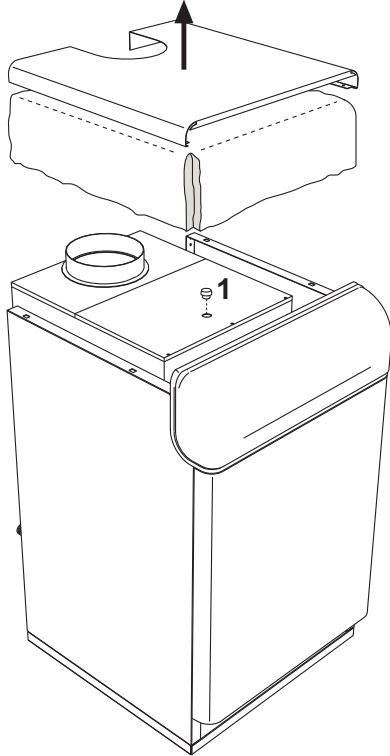

fig. 6 - Combustion analysis
A fume sampling point has been included inside the boiler in the upper part of the anti-backflow device (see fig. 6).
3. Open the fume sampling point 1 of fig. 6;